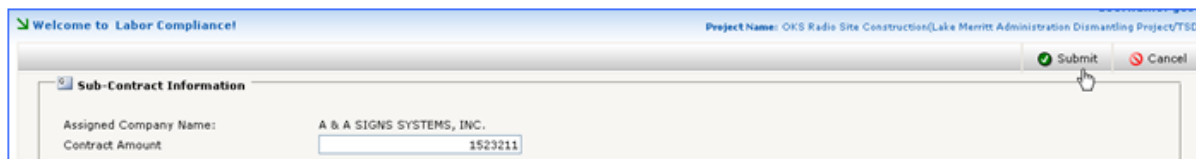

Figure 63– Add/Edit Subcontract Amount
4. Enter the contract value into the contract amount box (Figure 63).